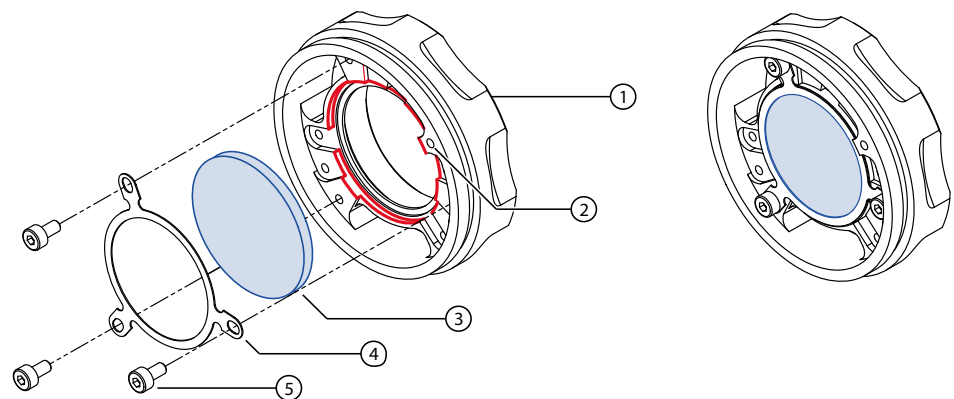

Figure 62: Changing the filter in the C-Mount adapter
To change the filter of the C-Mount lens adapter, follow the instructions outlined in Figure 62.
- See Figure 62 on page 216 (blue = filter, red = filter recess).